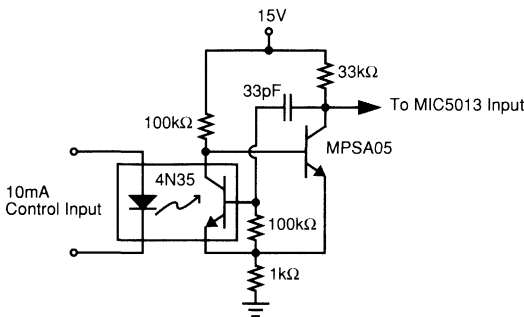

Figure 8. Improved Opto-Isolator Performance
**Opto-Isolated Interface** (Figure 8). Although the MIC5013 has no special input slew rate requirement, the lethargic transitions provided by an opto-isolator may cause oscillations on the rise and fall of the output. The circuit shown accelerates the input transitions from a 4N35 opto-isolator by adding hysteresis. Opto-isolators are used where the control circuitry cannot share a common ground with the MIC5013 and high-current power supply, or where the control circuitry is located remotely. This implementation is intrinsically safe; if the control line is severed the MIC5013 will turn OFF.
Power for the MIC5013 is supplied by a charge pump. A 20kHz square wave (15Vp-p) drives the pump capacitor and delivers current to a 100µF storage capacitor. A zener diode limits the supply to 18V. When the MIC5013 is off, power is supplied by a diode connected to a 15V supply. The circuit of Figure 8 is put to good use as a barrier between low voltage control circuitry and the 90V motor supply.